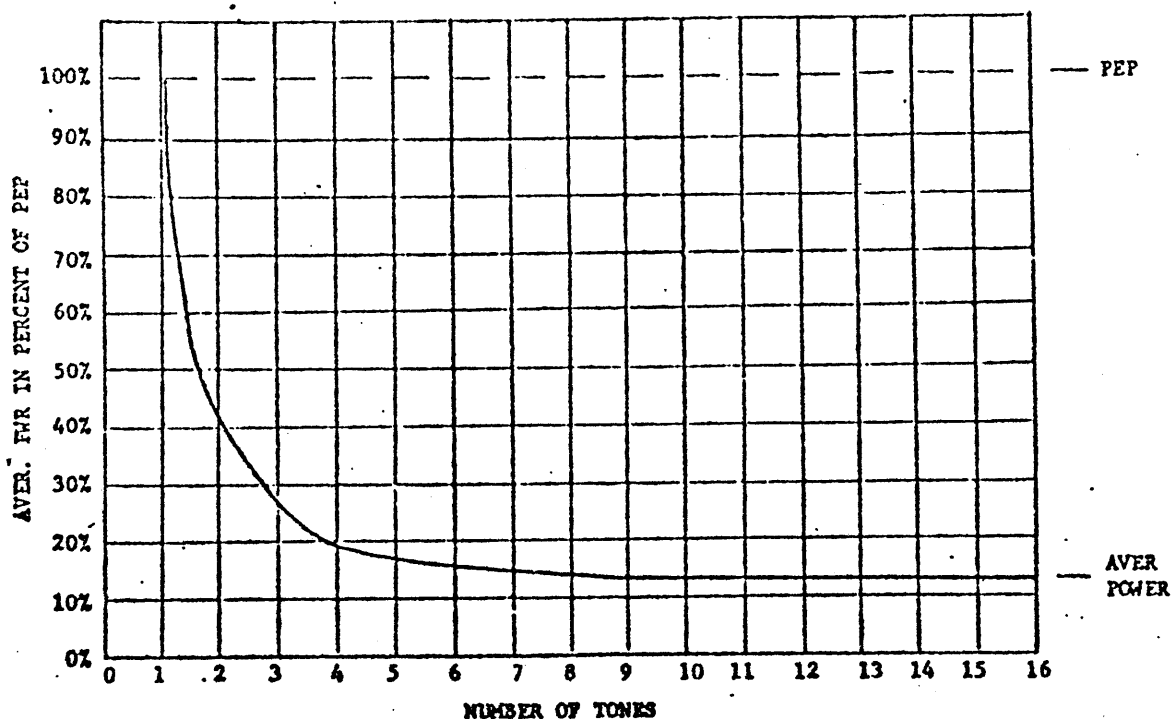

Figure 3-1. Ratio of Average Power and PEP
The more tones (teletype tones, carrier, voice, etc.) which are being transmitted, the less average power, as indicated on the OUTPUT meter. Figure 3-1 shows average power (measured in percent of peak envelope power) as a function of the number of tones being transmitted.
Two typical examples of proper operation, utilizing the relationship shown in figure 3-1, are given as follows:
(1) A single sideband transmission of two teletype tones with suppressed carrier at the full power level (1,000 watts PEP): The MMX(A)-2 MODE switch should be in the USB position and the CARRIER SUPPRESSION switch in the FULL position, providing full suppression of carrier. The transmission contains two tones, and by reference to figure 3-1 the maximum average power should be approximately 50% of the 1,000 watt PEP, or 500 watts average. The USB audio level control on the MMX(A)-2 should be adjusted so that the transmitter OUTPUT meter reads approximately 500 watts average.
(2) AME transmission of voice at the 800 watts PEP power level: The MMX(A)-2 MODE switch should be in the USB position and the CARRIER SUPPRESSION switch in the 6 db position, providing carrier suppression of 3 to 6 db from PEP, or approximately 200 watts ($1/4$ power). PEP is derived from the addition of carrier voltage and tone voltages. With carrier suppressed 6 db from PEP, the carrier voltage is already one half of the total voltage at PEP. The sum of the tone voltages must not exceed the remaining one half of the total voltage at PEP. Similarly, since the carrier voltage and the voltage available for tones are equal, so are the carrier power and the total tone power available. A maximum of approximately 200 watts PEP is available for tone transmission. A voice transmission contains an infinite number of tones, and by reference to figure 3-1, the average power for an infinite number of tones should be approximately 10% of 200 watts (20 watts). The CARRIER SUPPRESSION switch in the 6 db position will provide approximately 200 watts on the transmitter OUTPUT meter, and the USB audio level control on the MMX(A)-2 should be adjusted so that the transmitter OUTPUT meter reads approximately 220 watts average (the addition of carrier and intelligence power).